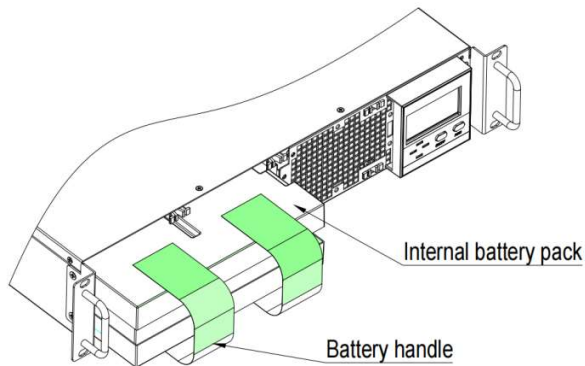

Fig.7-2 Pulling out the internal battery pack
Step 4: Grasp the battery handle, and pull the internal battery pack out of the UPS, as shown in Fig.7-2.